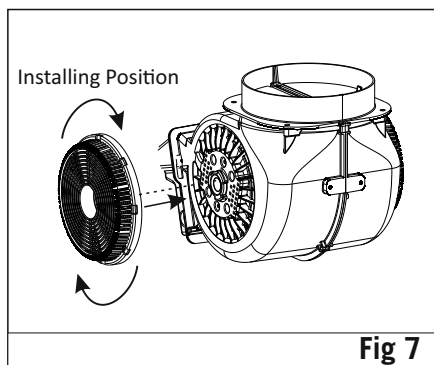

Fig 7
- Charcoal filters are installed onto both sides of the fan as shown in by turning 10 degrees clock-wise. **Figure 7**